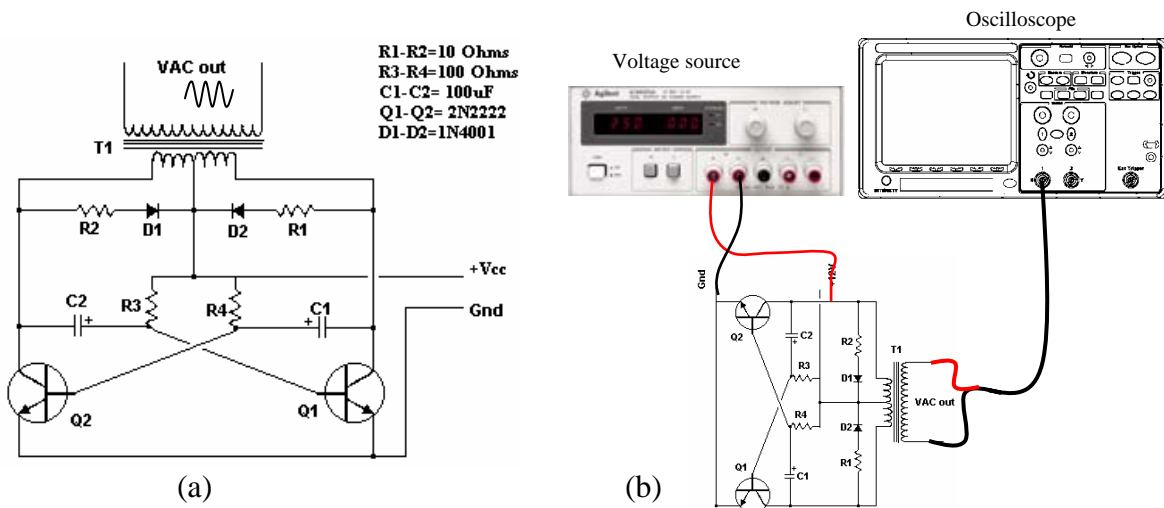

Figure 5
Verify the performance of a power inverter circuit from the conversion of a DC signal to an AC signal. Figure 5.a shows the basic inverter circuit used in the laboratory. The oscillations are generated from a multi-vibrator of two transistors.
- Connect the power inverter to the voltage source and the oscilloscope as shown in Figure 5.b.